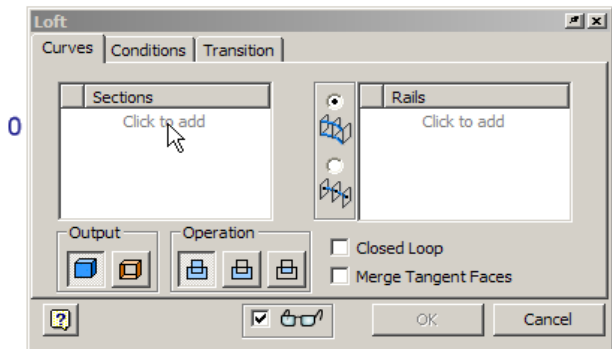

Figure Step 9
**Step 9** Enter the LOFT command. In the Loft dialogue box, click Click to add in the Sections area as shown in Figure Step 9.